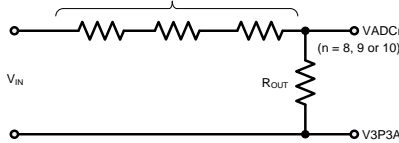
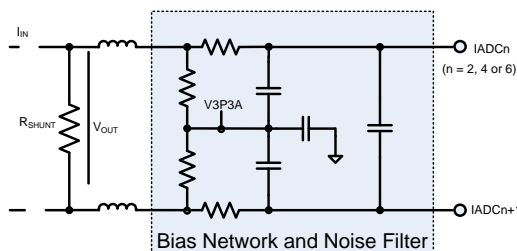
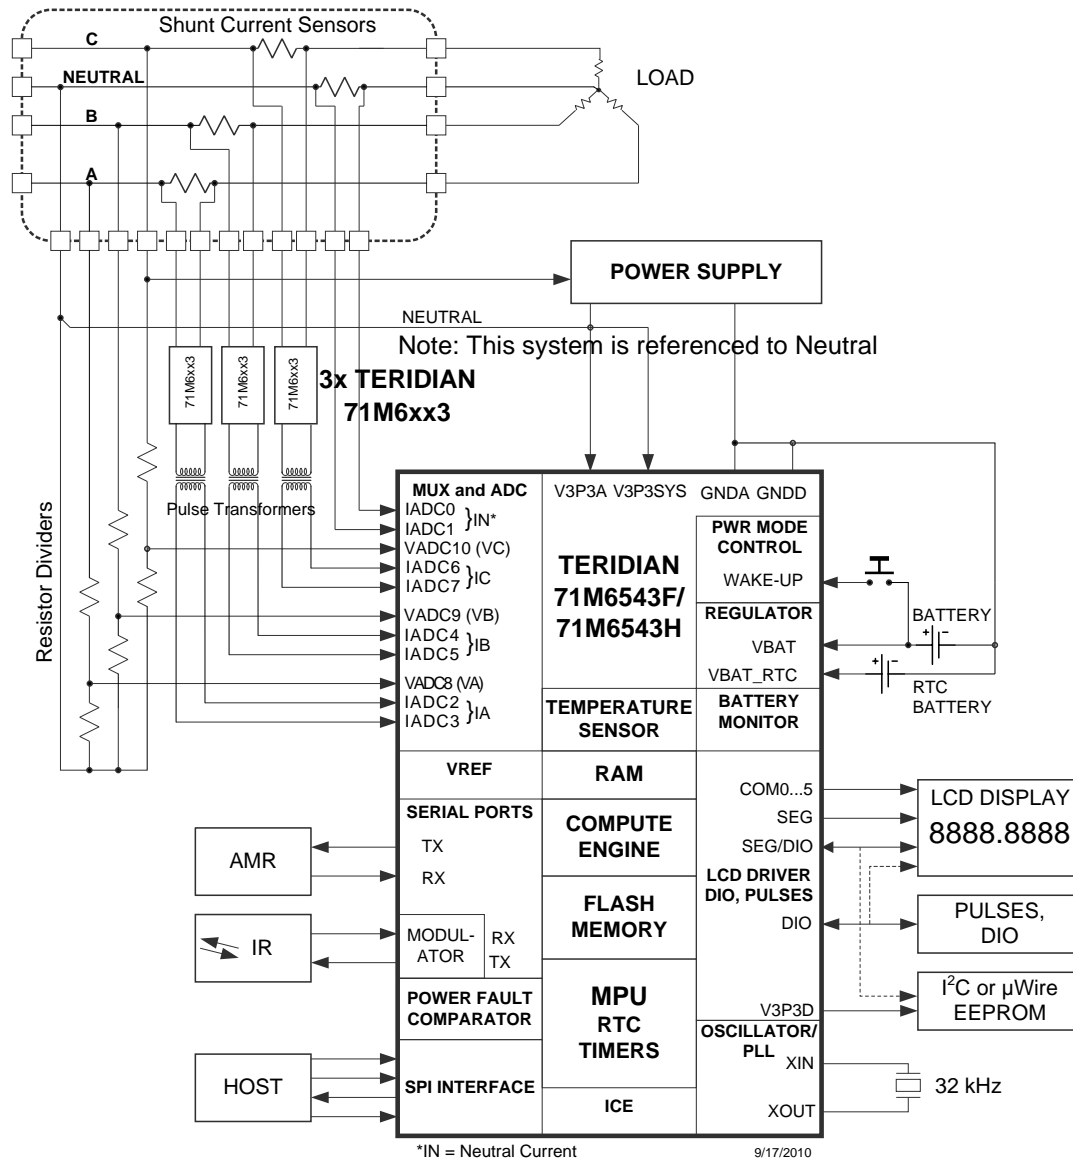
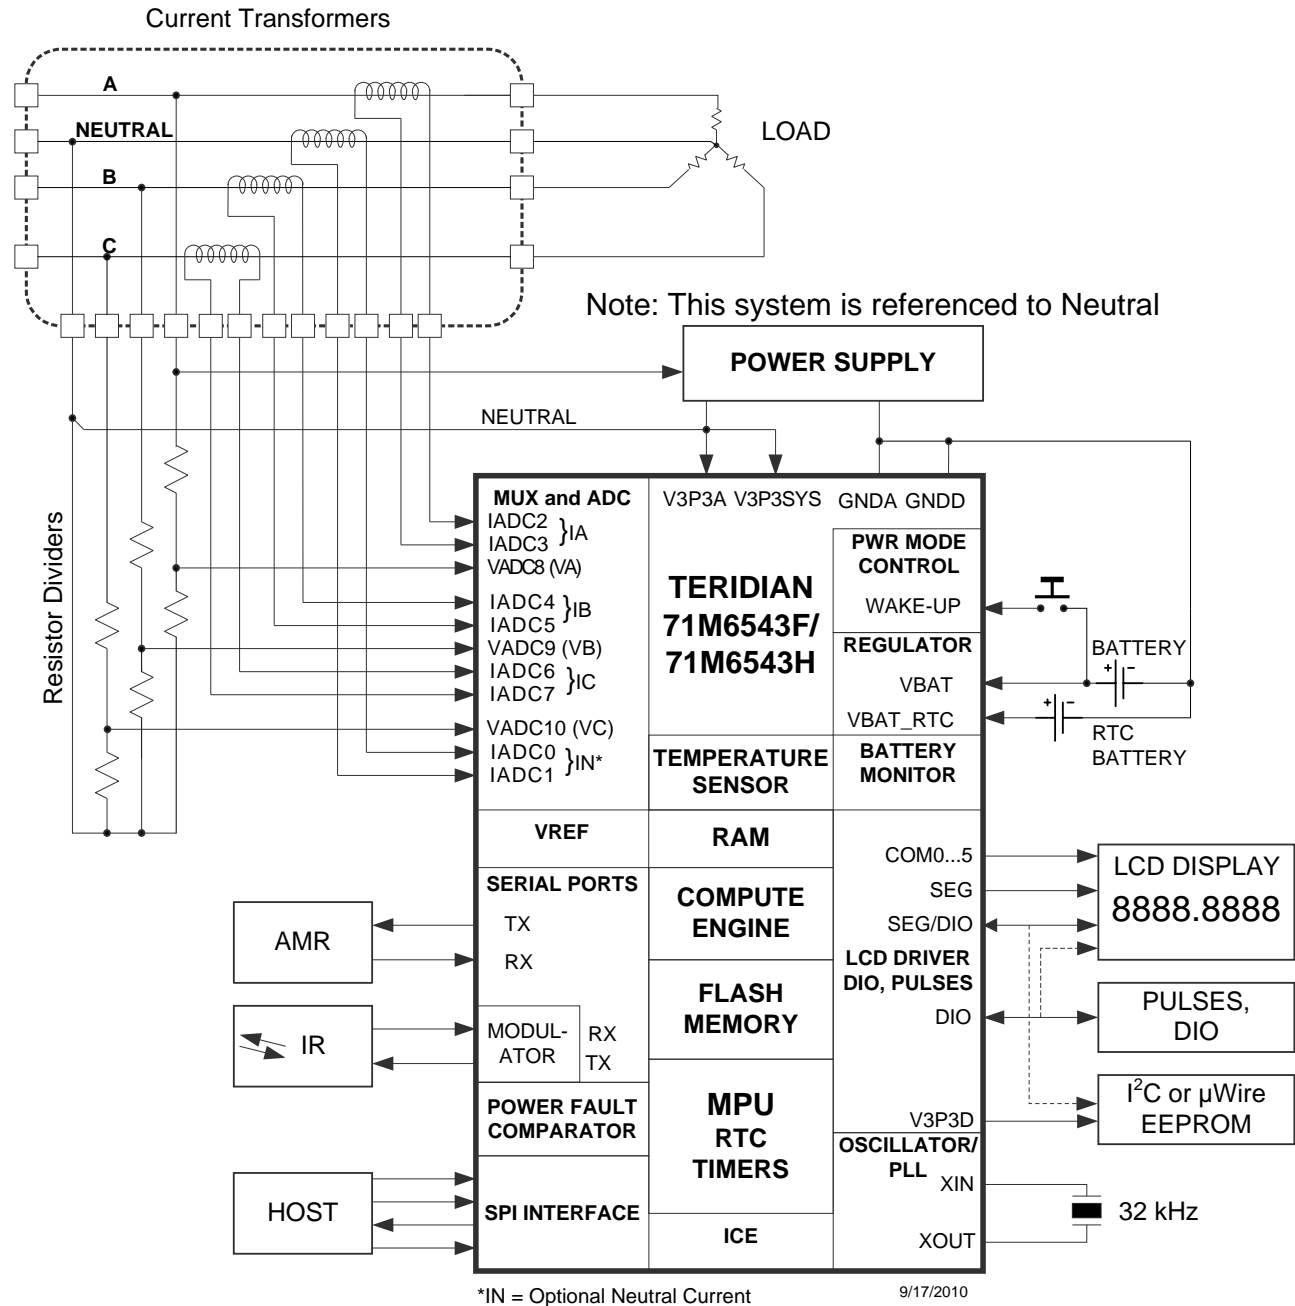

Figure 27: Resistive Voltage Divider (Voltage Sensing)
Figure 30: Differential Resistive Shunt Connections (Current Sensing)
Figure 31: System Using Three-Remotes and One-Local (Neutral) Sensor
Figure 32. System Using Current Transformers
Figure 27 through Figure 30 show voltage-sensing resistive dividers, current-sensing current transformers (CTs) and current-sensing resistive shunts and how they are connected to the voltage and current inputs of the 71M6543F/H. All input signals to the 71M6543F/H sensor inputs are voltage signals providing a scaled representation of either a sensed voltage or current.
Figure 31 shows a typical connection for current shunt sensors; using the 71M6xx3 (polyphase) isolated sensors. Note that one shunt current sensor is connected without isolation, which is the neutral current sensor in this example (connected to pins IADC0-IADC1). Each 71M6xx3 device is electrically isolated by a low-cost pulse transformer. The 71M6543F/H current sensor inputs must be configured for remote sensor communications, as described in 2.2.8 71M6xx3 Isolated Sensor Interface (page 22). Flexible remapping using the I/O RAM registers $MUXn_SEL[3:0]$ allows the sequence of analog input pins to be different from the standard configuration (a corresponding CE code must be used). See Figure 2 for the AFE configuration corresponding to Figure 31.
Figure 32 shows a polyphase system using four current transformers to support optional Neutral current sensing for anti-tamper purposes. The Neutral current sensing CT can be omitted if Neutral current sensing is not required. The system is referenced to Neutral (i.e., the Neutral rail is tied to V3P3A and V3P3SYS).
This section discusses metrology temperature compensation for the meter designs where current shunt sensors are used in conjunction with Teridian's 71M6xx3 remote isolated sensors, as shown in Figure 31.
Referring to Figure 31, the VADC8 (VA), VADC9 (VB) and VADC10 (VC) voltage sensors are always directly connected to the 71M6543F/H. Thus, the precision of the voltage sensors is primarily affected by VREF in the 71M6543F/H. The temperature coefficient of the resistors used to implement the voltage dividers for the voltage sensors (see Figure 27) determine the behavior of the voltage division ratio with respect to temperature. It is recommended to use resistors with low temperature coefficients, while forming the entire voltage divider using resistors belonging to the same technology family, in order to minimize the temperature dependency of the voltage division ratio. The resistors must also have suitable voltage ratings.
Table 67 shows the five $GAIN_ADJ_x$ equation output storage locations and the voltage or current sensor channels for which they compensate for the 1 Local / 3 Remote configuration shown in Figure 31.
Table 67: $GAIN_ADJ_n$ Compensation Channels (Figure 2, Figure 31, Table 1)
This section discusses metrology temperature compensation for meter designs where Current Transformer (CT) sensors are used, as shown in Figure 32.
Referring to Figure 32, the VADC8 (VA), VADC9 (VB) and VADC10 (VC) voltage sensors are directly connected to the 71M6543F/H. Thus, the precision of the voltage sensors is primarily affected by VREF in the 71M6543F/H. The temperature coefficient of the resistors used to implement the voltage dividers for the voltage sensors (see Figure 27) determine the behavior of the voltage division ratio with respect to temperature. It is recommended to use resistors with low temperature coefficients, while forming the entire voltage divider using resistors belonging to the same technology family, in order to minimize the temperature dependency of the voltage division ratio. The resistors must also have suitable voltage ratings.
Table 68: GAIN_ADJx Compensation Channels (Figure 3, Figure 32, Table 2)